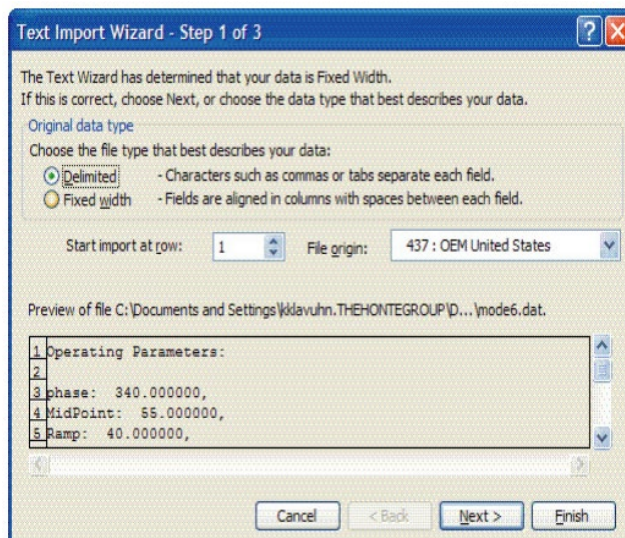

Figure 10. Setting data type in text import wizard
2. The Text Import Wizard should open. Choose the Delimited option and click Next, as shown in Figure 10.